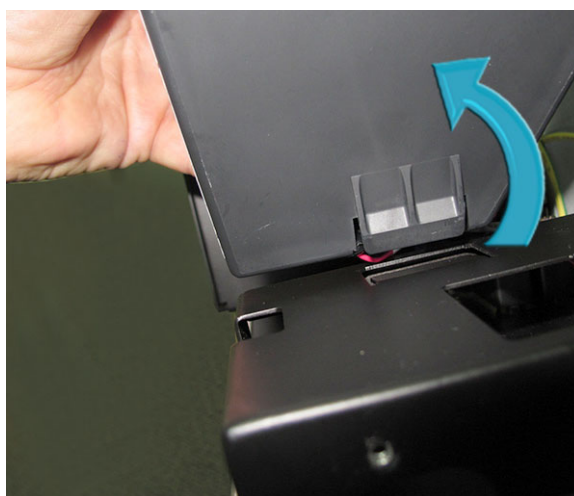

Figure 8-194 Removing the Sub-Woofer Assembly
- 4) Lift and tilt the Sub-woofer Assembly to release it from the securing tab, then remove it from the cabinet cage - see Figure 8-194.
- 1.) Return the replacement Sub-Woofer Assembly (together with the cable attached) to its position on top of the cabinet cage - refer to Figure 8-194.